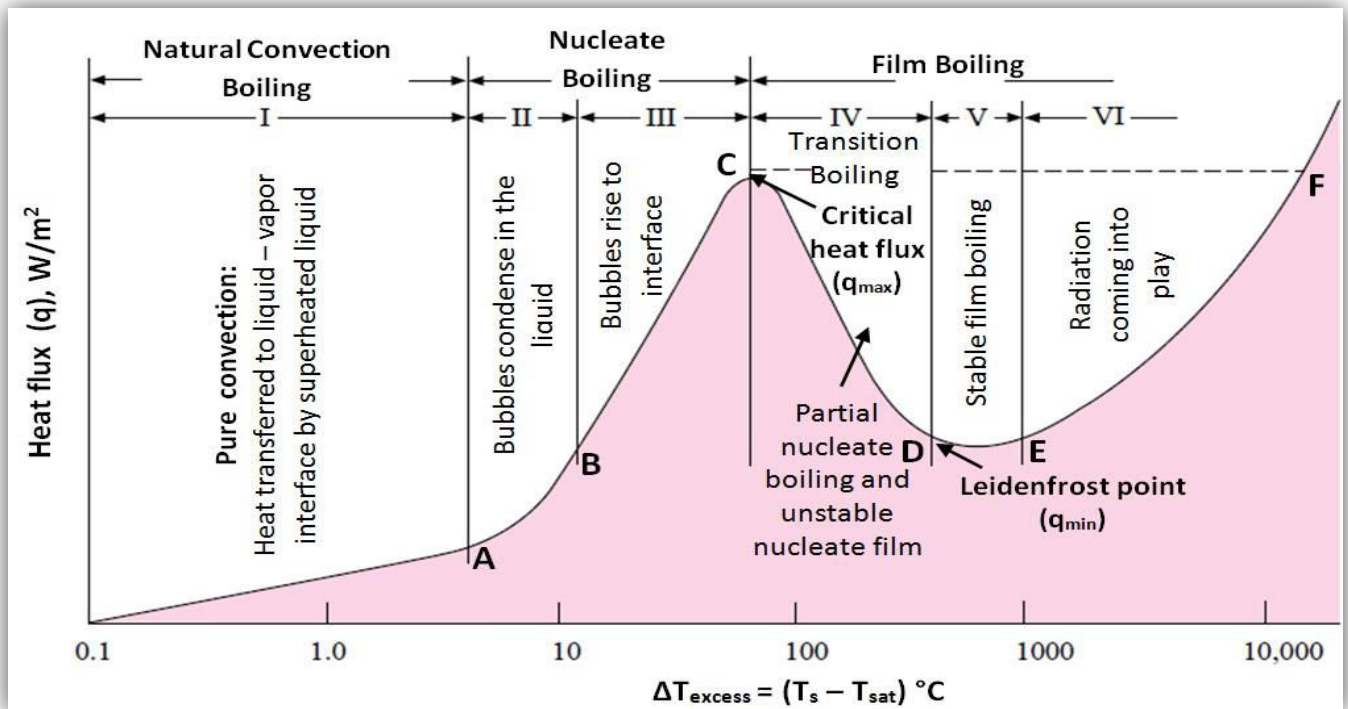

Fig. 8.3 Boiling curve for saturated water at atmospheric pressure
- Fig. 8.3 shows the relationship between heat flux and the temperature excess ($T_s - T_{sat}$); Where,
- Although the boiling curve given in Fig. 8.3 is for water, the general shape of the boiling curve remains the same for different fluids.
- As the heater temperature and thus ΔT_{excess} is increased past point C, the heat flux decreases as shown in Fig. 8.3.